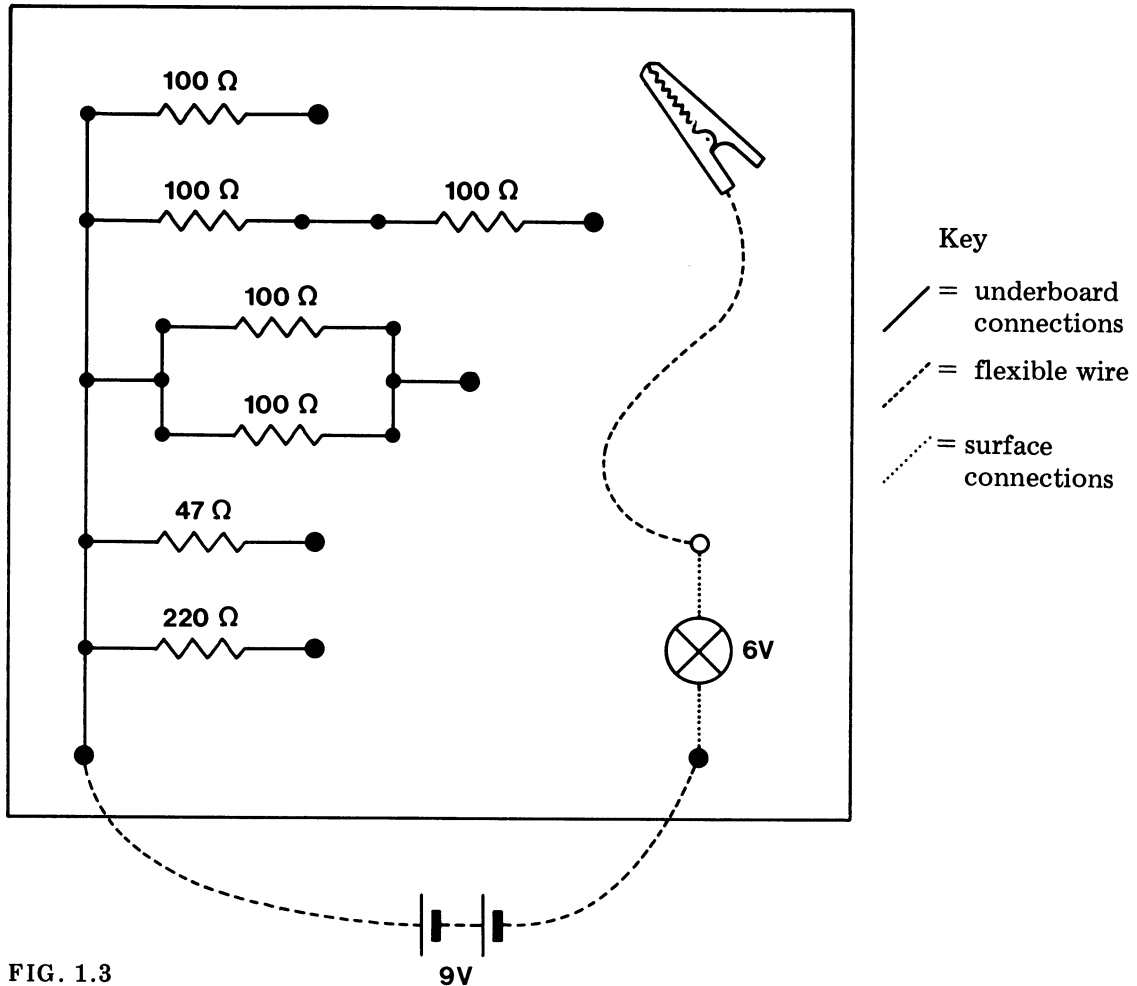

FIG. 1.3
1. It was seen in Circuit 1 that the current that flows round a circuit for a given e.m.f. depends on the amount of resistance in the circuit. When there is more than one resistor in the circuit, however, the amount of current that flows from the battery depends on the way in which the resistors are connected together. To investigate the effects of different arrangements of resistors, build the circuit shown in Fig. 1.3 and observe what happens when the clip is connected in turn to the various points. It should be observed that when the two  $100\ \Omega$  resistors, connected one after the other, are introduced into the circuit the bulb is dimmer than when the single  $100\ \Omega$  resistor is used. Also, when the two  $100\ \Omega$  resistors which are connected side by side are introduced it should be seen that the bulb is brighter than when the single  $100\ \Omega$  resistor is used. In fact, the two resistors connected side by side should cause the bulb to light with almost the same brightness as when a  $47\ \Omega$  resistor is used and the two resistors connected one after the other should result in the bulb lighting with roughly the same brightness as with the  $220\ \Omega$  resistor in circuit. Components connected one after the other as in the above circuit are said to be connected *in series* and when connected side by side they are said to be *in parallel*.